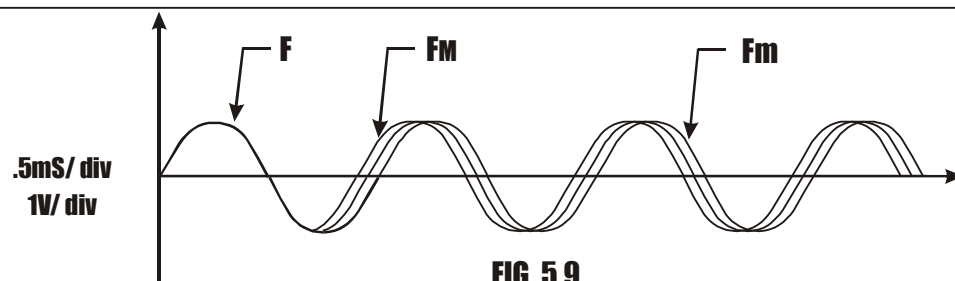

FIG. 5.9
- The frequency deviation ΔF can be calculated as follows (Refer to **FIG. 5.9**). From the oscilloscope evaluate F_M and F_m , detecting the periods of the respective sine waves.